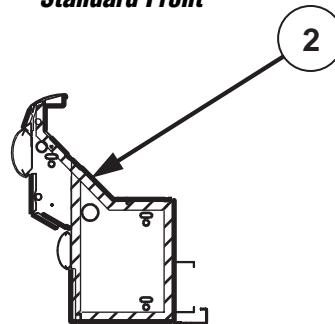

Figure 3. Apply Gaskets
- 3** Apply **Gasket – 2** to the lower assembly as shown in Figure 3. On upper assembly, apply **Gasket – 3** to *cover foam-to-metal gap* at rear and across top as shown in Figure 3. Apply **Gasket – 3** to rear of uprights on **D5RRIS**. Lap gaskets at corners. Check that there are no gaps between gasket and case.